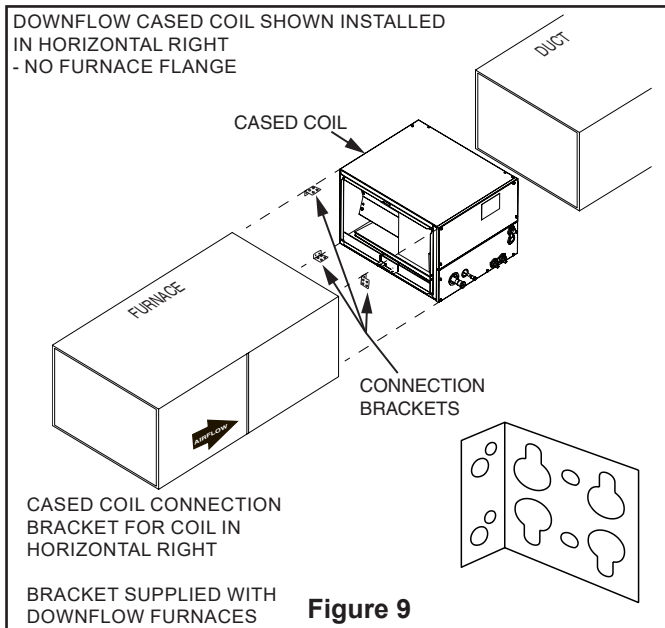
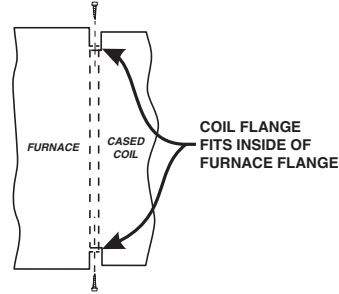

Figure 9
Figure 10
- f. Attach the coil to the furnace. Horizontal right coils will require connection brackets if no furnace flange is present. See Figure 9. If furnace flange is present, use field provided screws no longer than 1.5" to attach furnace to cased coil in the four obround holes on the sides of the cased coil. See Figure 10.